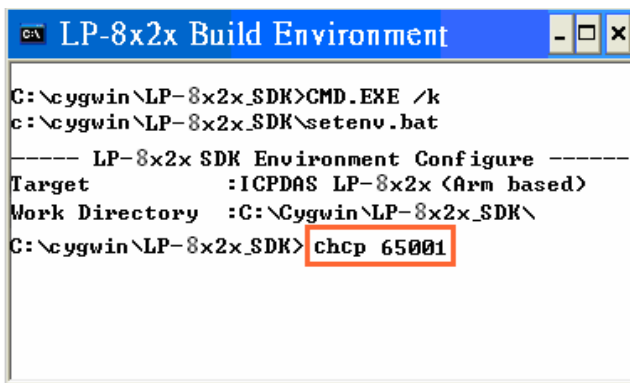
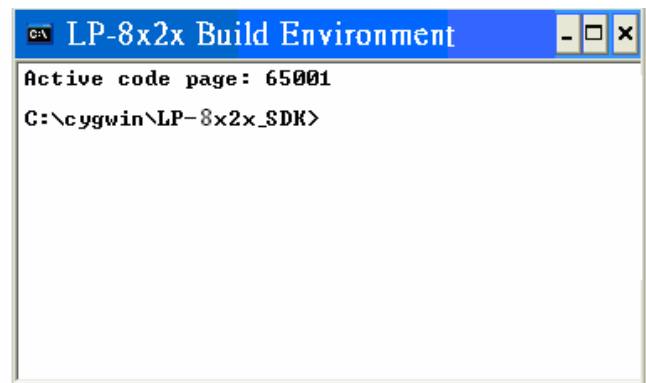

Fig. 2-24
Fig. 2-25
- ❑ Type command: **chcp 65001** (Refer to Fig. 2-24 and Fig 2-25).